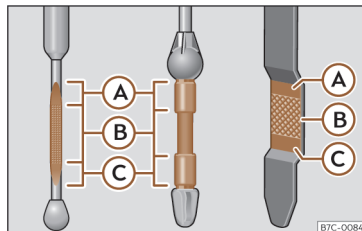

Fig. 222 Engine oil dipstick.
- Then pull it out once more and check the oil level»» Fig. 222. Top up with engine oil if necessary.
- When the oil level reaches at least zone >>> Fig. 222 (B), unscrew the engine oil filler cap carefully >>> ⓘ.
If the oil level is above area >>> Fig. 222 (A), do not start the engine. This could result in damage to the engine and catalytic converter. Contact a specialised workshop.
The oil level must never be above zone >>> Fig. 222 (A). Otherwise oil can be drawn in through the crankcase breather and leak into the atmosphere via the exhaust system.